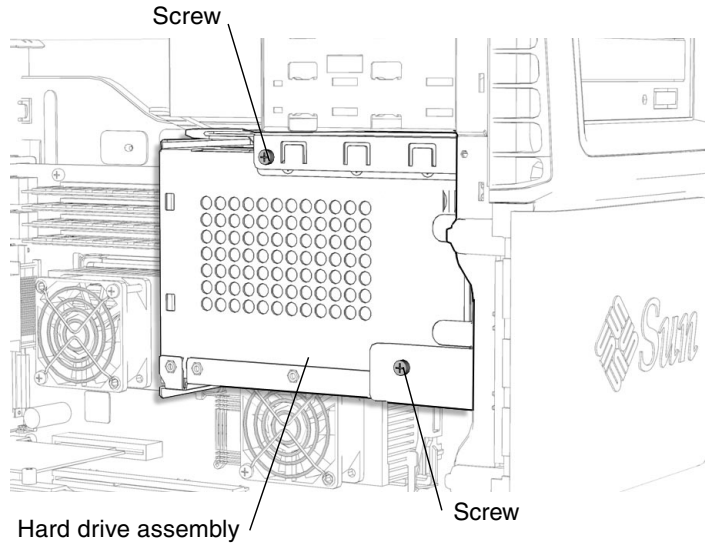

FIGURE 15-3 Installing the Hard Drive Assembly Screws
7. Install the two screws for the hard drive assembly (FIGURE 15-3).